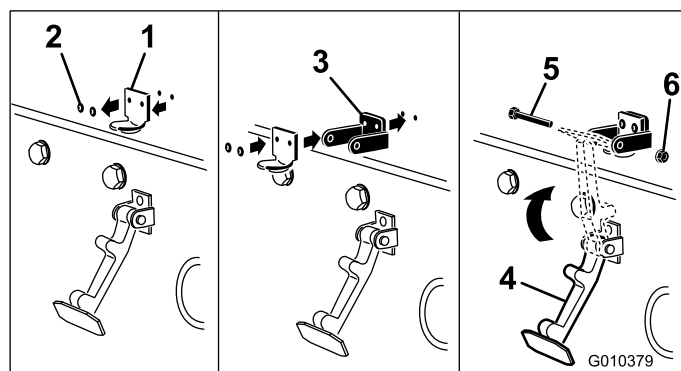

Figure 4
2. Remove the (2) rivets securing the hood latch bracket to the hood (Figure 4). Remove the hood latch bracket from the hood.
3. While aligning the mounting holes, position the CE lock bracket and the hood latch bracket onto the hood. The lock bracket must be against the hood (Figure 4).
5. Hook the latch onto the hood latch bracket (Figure 4).
6. Insert a bolt (1/4 x 1-1/2 in.) through the hood lock bracket and secure it with a locknut (Figure 4).